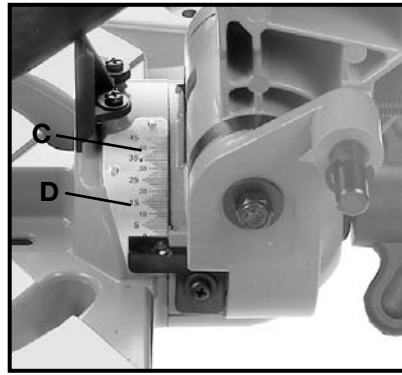

Fig. 19
2. Positive stops are provided to rapidly position the saw blade at 90 and 45 degrees to the table. Refer to the section of this manual titled “**Adjusting 90 and 45 degree bevel positive stops.**” The bevel angle of the cutting arm is determined by the position of the pointer (C) Fig. 19, on scale (D).